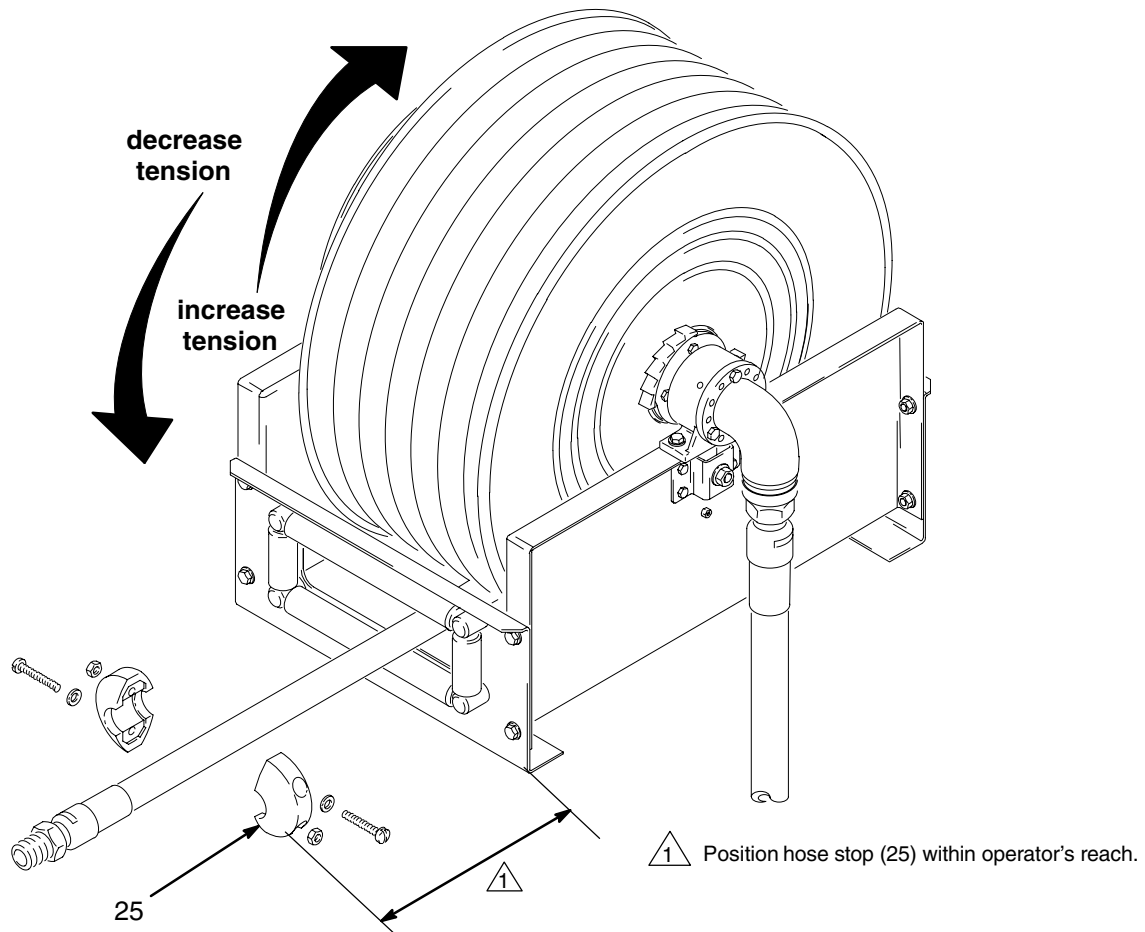

Fig. 3
2. Remove the dispensing valve (not shown) and the hose stop (25). See Fig. 3.
4. Rotate the reel in the direction of the appropriate arrow shown in Fig. 3, keeping the hose wrapped on the reel. Each rotation of the reel increases or decreases enough spring tension to retract or let out approximately 5 ft (1.5 m) of hose.